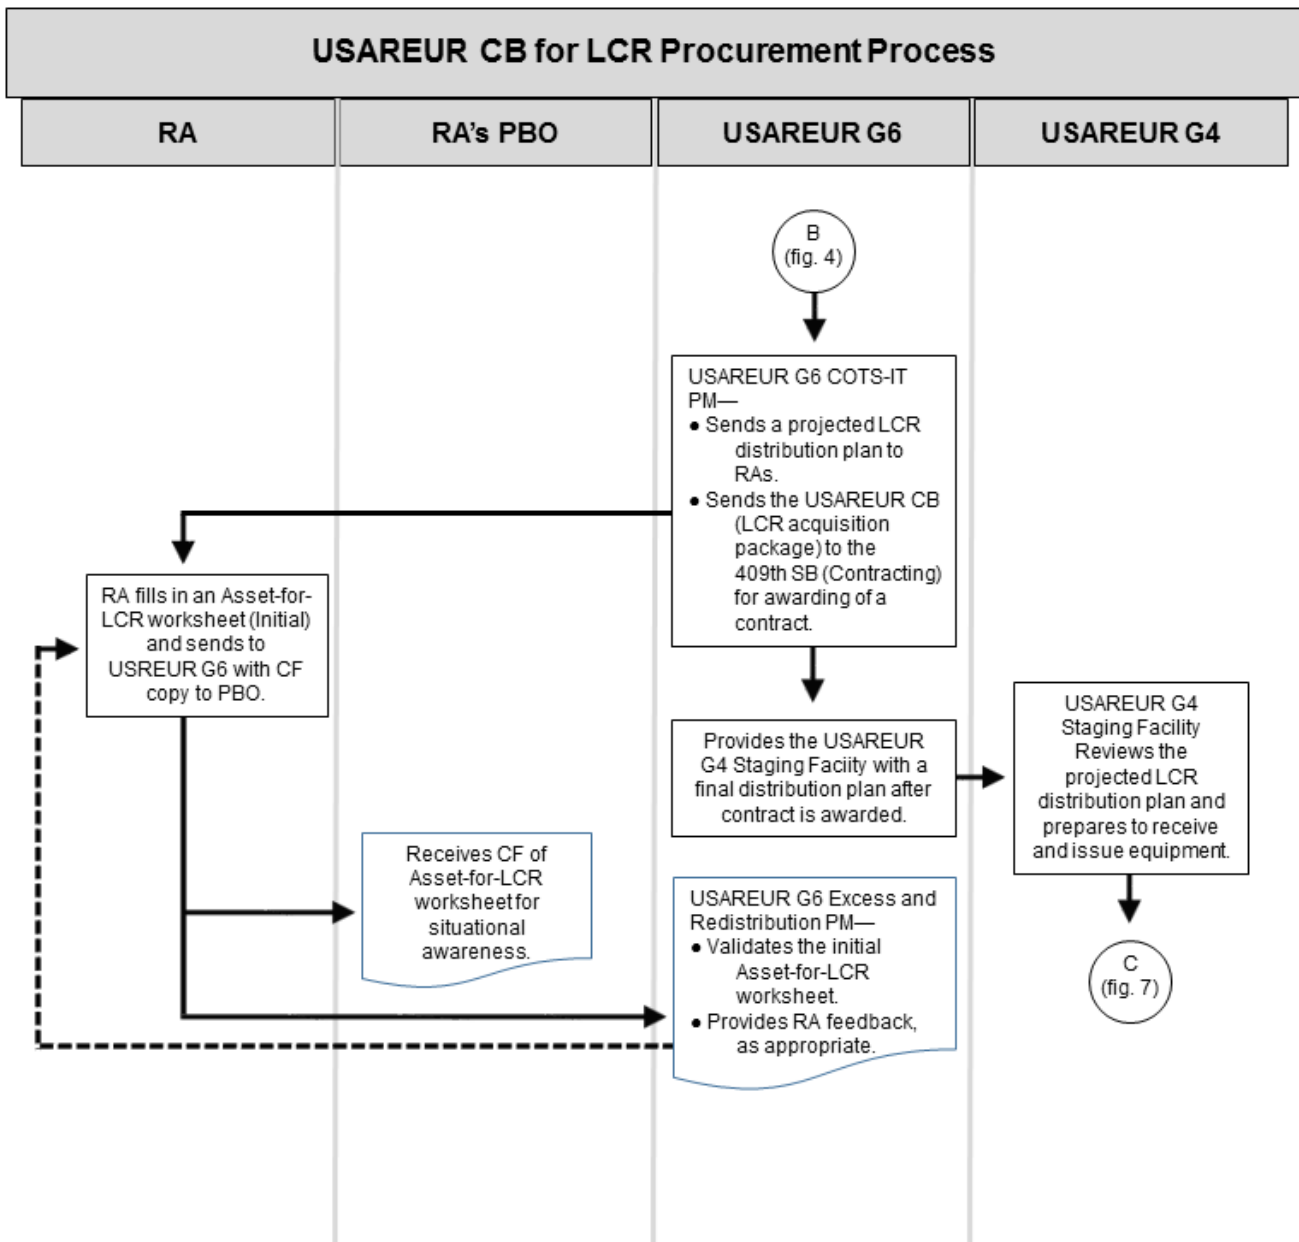

Figure 5. LCR Procurement Process
(1) The USAREUR G6 COTS-IT PM will notify units and organizations with their projected LCR distribution plan by e-mail or through a TMT-system tasking by no later than 1 May each year. This gives units time to review and, if required, comment before the USAREUR G6 submits the URVS request for LCR procurement, which should usually be processed and awarded by 30 September.
(2) Figure 5 illustrates the steps of the USAREUR LCR procurement process. Subparagraphs b through d below describe the steps in detail by the responsible organization.
(1) Units must complete ATOE-adjustment procedures (paras 7 and 8) by 1 March to take part in the annual USAREUR CB (COTS-IT LCR procurement) using the CHES.
(2) If a unit requires additional COTS-IT equipment before or after the USAREUR LCR procurement process window, the unit must use the process in figure 5 to obtain approval for an out-of-cycle procurement and will usually be responsible for providing IT equipment funding. Unit-funded LCR equipment must still be shipped to the USAREUR G4 Staging Facility for proper cataloging and posting of the equipment into Global Combat Support System – Army (GCSS-A) property-book records before the equipment may be issued to the authorized HQ USAREUR staff office or USAREUR MSC.
(3) Units must coordinate with their PBOs to review property-book records (indicating the total on-hand equipment and unit authorizations, which should match to the ATOE) to identify the desktop computers, laptop computers, and printers that will be replaced by the projected LCR equipment.